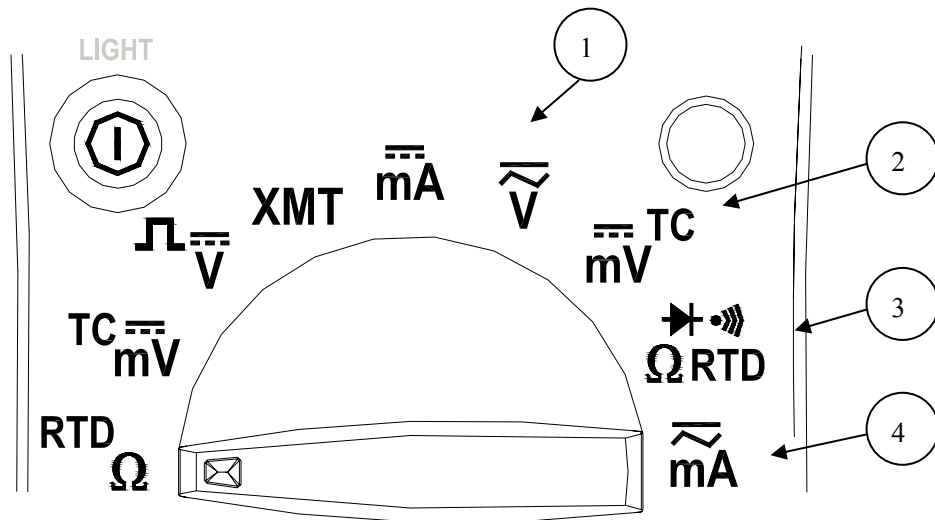

Figure 3 .Rotary Function Switch Positions for Measurement
- Figure 3 and Table 3 describe the measuring functions of the last four rotary function switch positions.